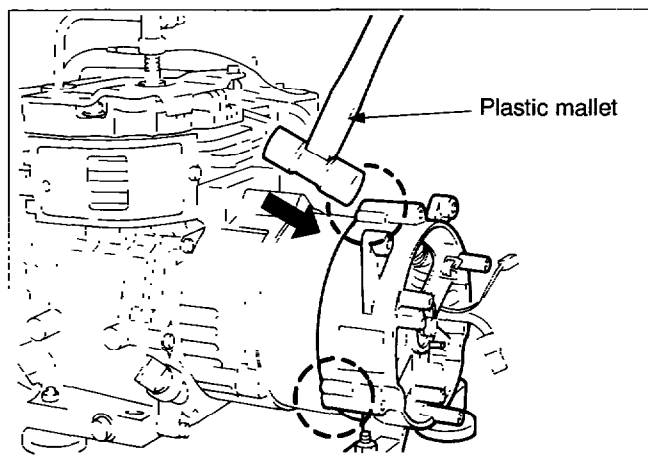
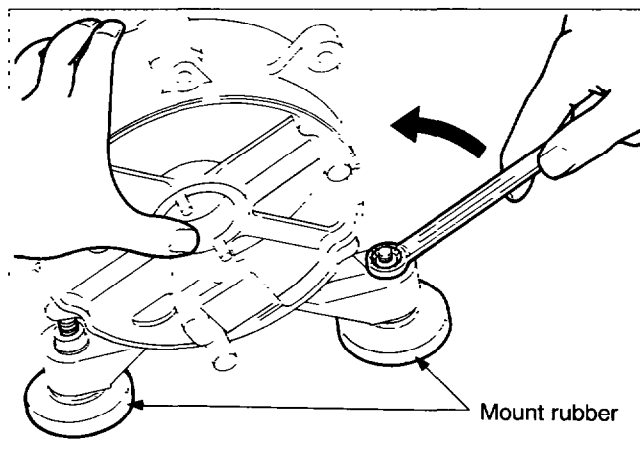

Fig. 10-17
Fig. 10-18
| | <p>(4) Remove the rear bracket, tapping it evenly with a plastic mallet. (See Fig. 10-17.)</p> <p>(5) Remove mount rubbers from rear cover. (See Fig. 10-18.)</p> | | <p>Plastic mallet</p> <p>Wrench</p> |